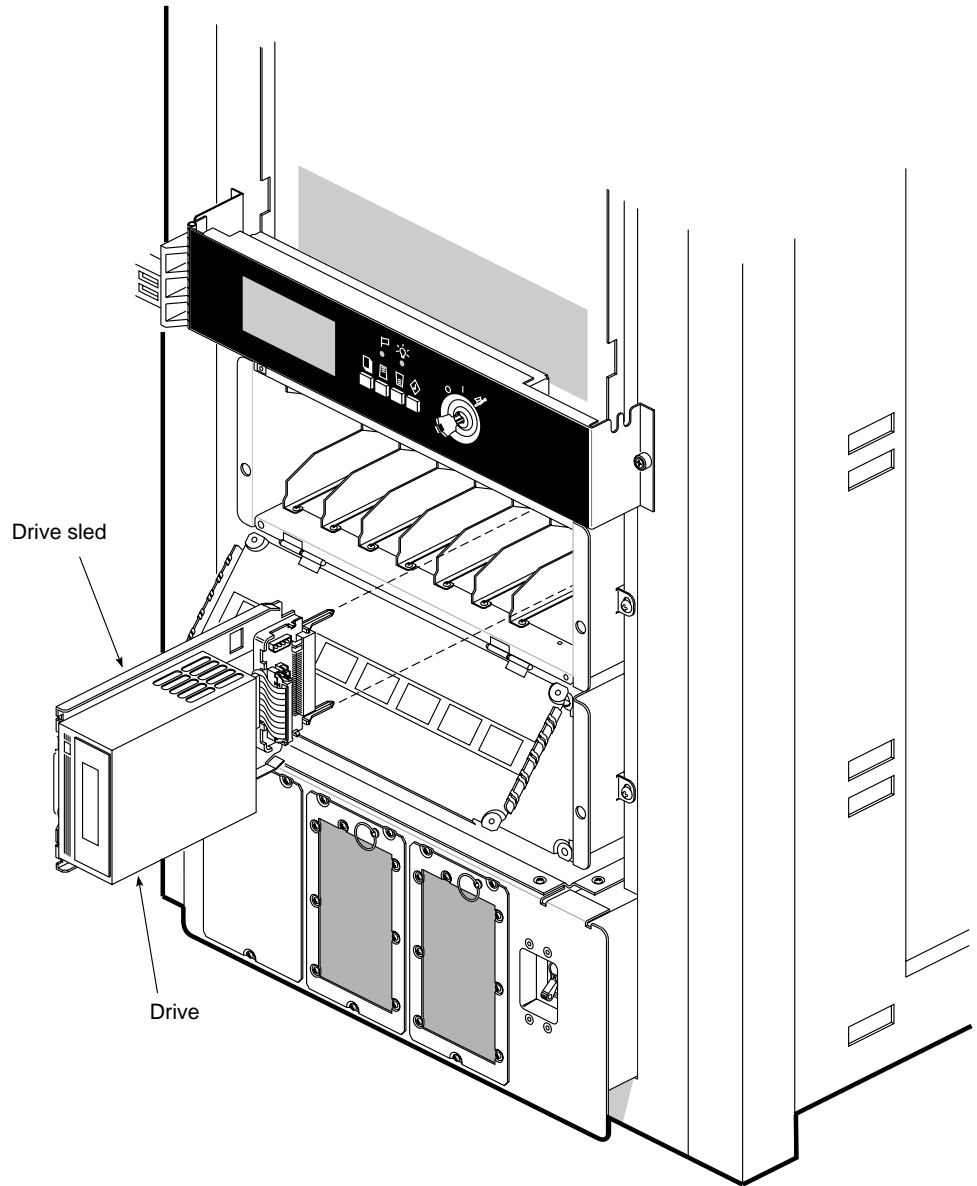

Figure 1-5 Installing the Tape Drive Into a Vertical Drive Bay
1. Orient the FLD relative to the drive bay so that the drive is facing toward the right (see Figure 1-5).